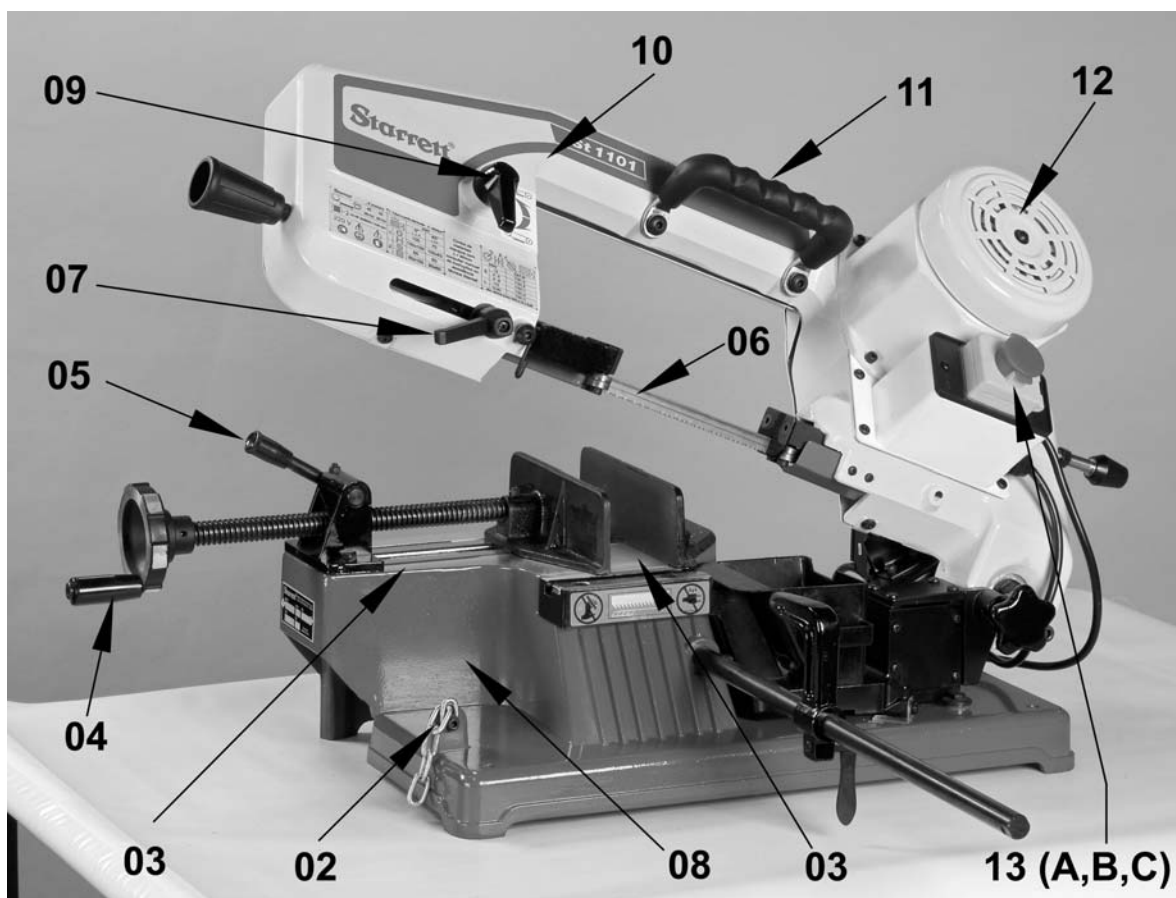
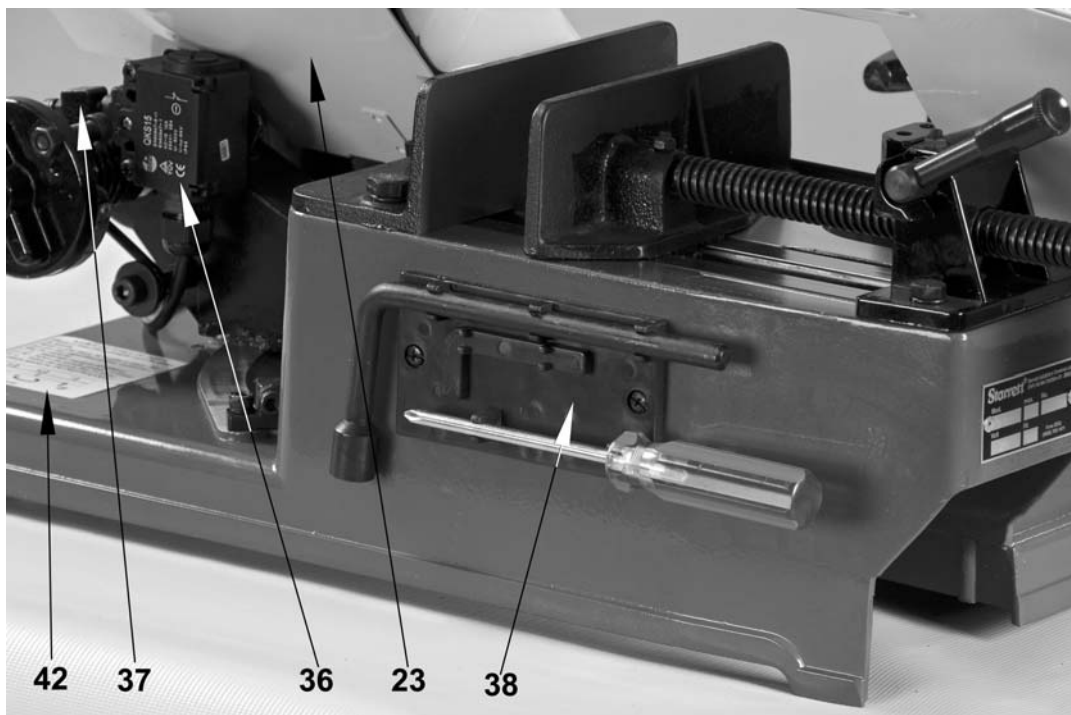

Figure 01A
Figure 02
A welded Saw Blade (06) is mounted around the two wheels and conveniently tensioned by the Tensioning Device (09), to keep the blade properly tensioned by the Wheels (21)(25). The Arc (10), in turn, is mounted on the Vise Assembly (08) through a shaft that allows the arc to pivot on the saw plane, thus creating a cutting plane (figure 01A). The Blade (06) and Wheels (21)(25) are duly protected at the back of Arc (10) by a Protective Cover (23) (figure 02).
The Vise Assembly (08) (figure 01A) is intended to securely clamp the material to be cut to the Cutting Table (03) and forms the base of the machine, made of injected aluminum alloy. Such assembly is comprised of:
- Cutting Table (03);
- Jaws (14);
- Tightening Spindle (29);
- Lever (04).
- Coupling Lock Lever (05).